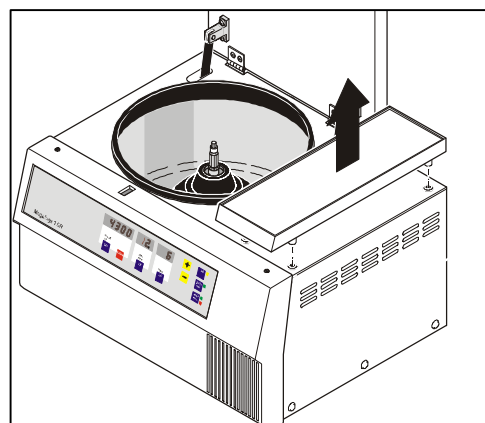

Figure 2
- Remove the shelf (105). (Figure 2)